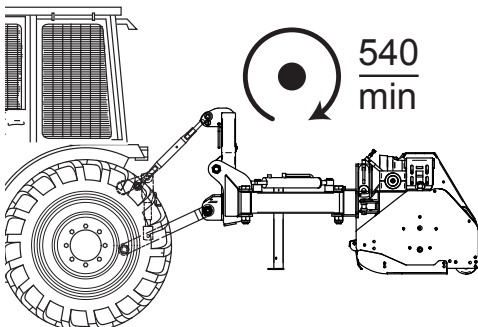

Fig. 23
- engage the power take-off slowly and accelerate the tractor, avoiding exceeding the maximum rotation limit of the power take-off of 540 rpm (Fig. 23).